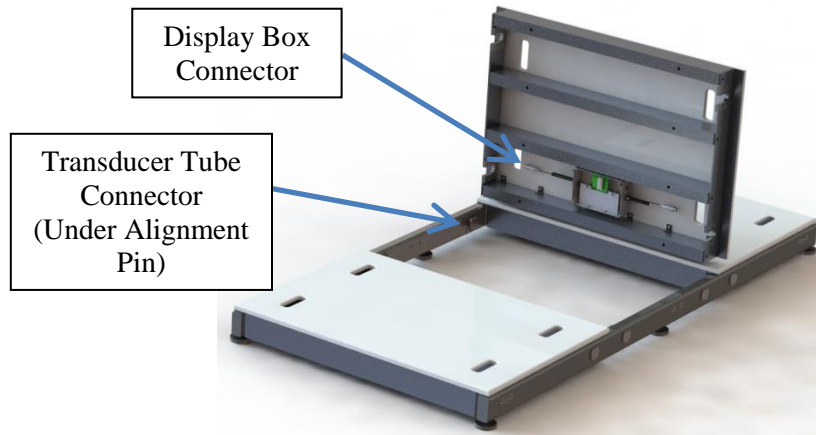
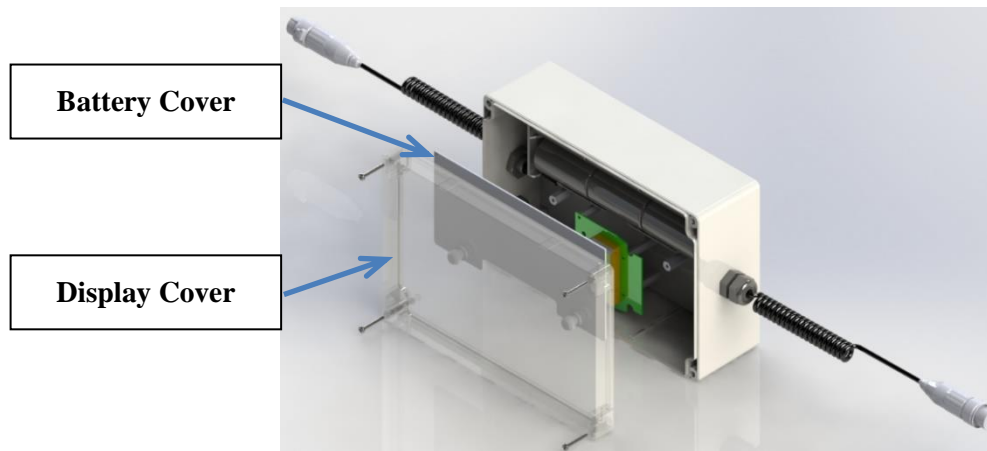

Figure 4: Center Panel Assembly
Figure 7: Display Assembly
- STEP 1:** Unpack Large Animal Platform Scale (1) and check parts against PACKING CHECKLIST. If there are any missing or damaged parts, call Service Hotline at: 1-800-654-6360.
- STEP 2:** Remove the center panel to access the Display Housing (see Figure 4). Unplug the two (2) transducer cables that come from the display box. Unscrew the four (4) screws from the plastic cover on the display housing. Loosen the two thumb screws on the battery holder cover and remove the cover. Install the six (6) “D” cell batteries according to battery holder imprinted instructions. Attach the battery holder cover and tighten the thumb screws. Re-secure the plastic cover with the four (4) screws.
STEP 7: Carefully place the center panel with electronics on an angle on top of one of the previously assembled panels and one (1) transducer tube. When stable, plug in the two (2) transducer cables that come from the display box under the center panel to each of the transducer tubes. Ensure that the transducer cables are in line with the connectors on the transducer tubes (Figure 4).
STEP 1: Remove the center Top Panel (Figure 4) and disconnect the two (2) cables from the Transducers. Turn the Top Panel over and remove the four (4) Display Cover screws and the clear plastic cover from the Display housing. Unscrew the two thumb screws on the Battery Cover and remove the battery cover (Figure 7).
STEP 2: Remove and replace all six (6) “D” cell batteries. Replace the Battery Cover and tighten the two thumb screws.
STEP 3: Place the clear plastic cover on the housing and secure with the four (4) screws.